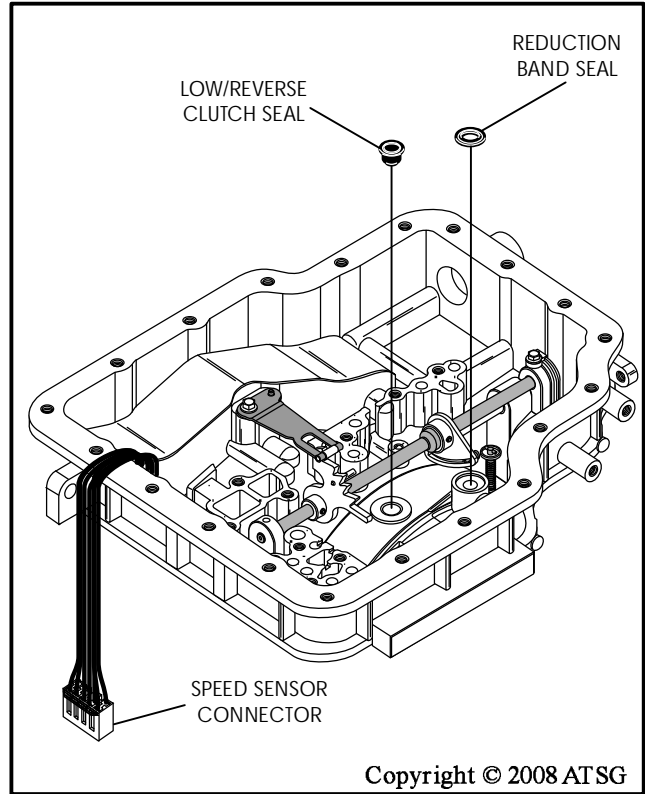

Figure 230
40. Place the speed sensor wiring harness outside of the pan rail, as shown in Figure 230, in preparation for valve body installation.
41. Install a new reduction band seal into the case pocket, as shown in Figure 230, and retain with a small amount of Trans-Jel®.
42. Install the low/reverse clutch "top-hat" seal, as shown in Figure 230, and retain with a small amount of Trans-Jel®.